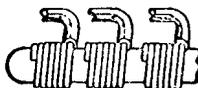

FIGURE 23.
- a. Where more than one connection per terminal is necessary, the method of wrapping the second or third connection is determined by the remaining terminal length after the first connection has been made. Each 6-turn connection takes approximately 1/4 inch of the terminal. In order to make a second or third connection, at least 1/4 or 1/2 inch of the terminal must be available. See Figure 23.